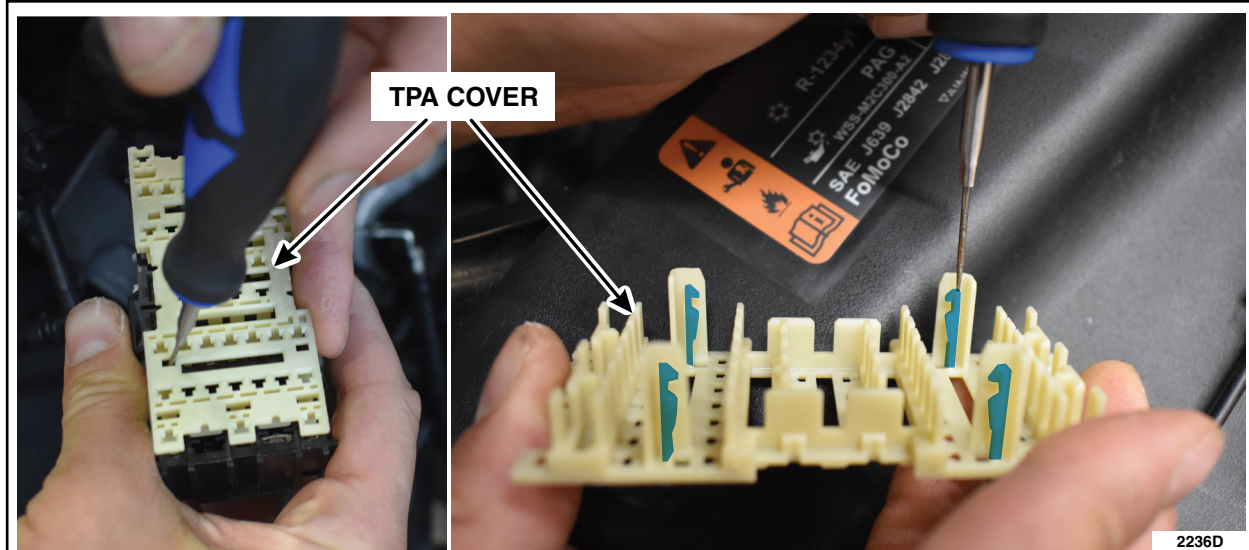

FIGURE 17
19. Using a small flat-head screwdriver, remove the Terminal Position Assurance (TPA) cover. See Figure 17.